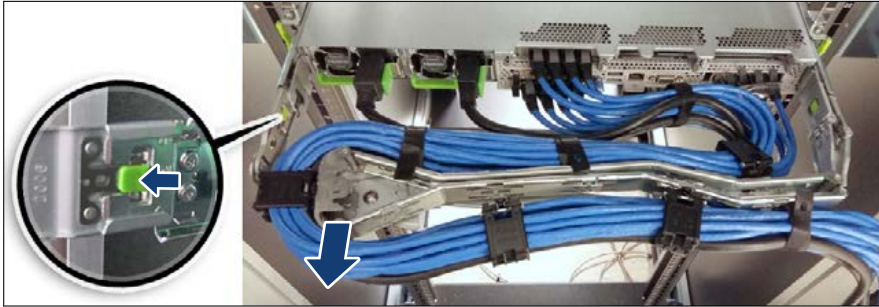

Figure 49: Unlocking the CMA
- ▶ Push the lock spring inward to unlock the CMA bracket, see Figure 49.